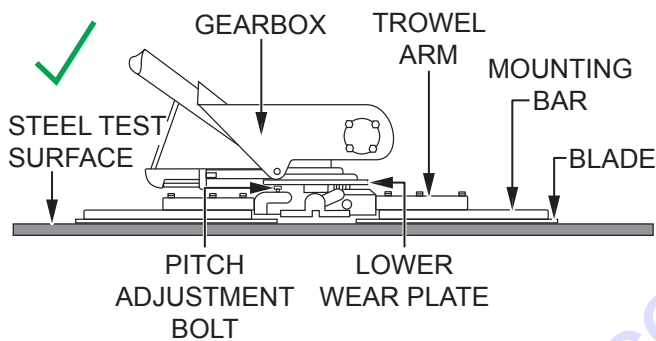

Figure 57. Blades Pitched Flat (Correct)
2. Pitch the blades as flat as possible (Figure 57). The pitch adjustment bolts should barely contact (0.10 inch maximum clearance) the lower wear plate. All adjustment bolts should be spaced the same distance from the lower wear plate. If any one of the bolts does not make contact, adjustment is necessary.